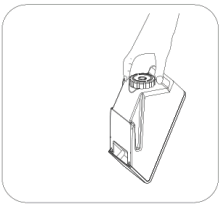

Fig. 10
- It up with water after the army, with a clean towel to clean the toilet outside the water tank on the well-being of : will. (in figs10 and11)